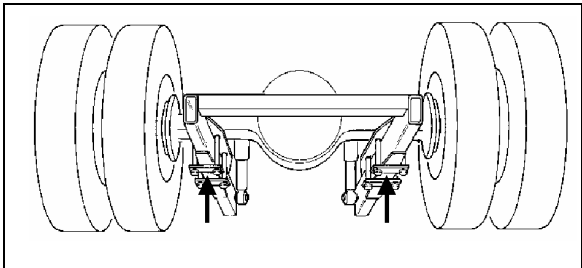
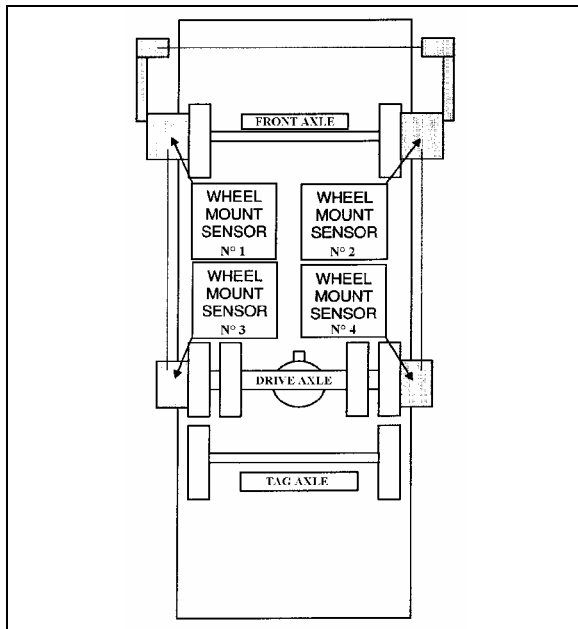

FIGURE 6: JACKING POINTS ON DRIVE AXLE H3B762
FIGURE 8: FRONT & DRIVE AXLE ALIGNMENT 11025
- FIGURE 6: JACKING POINTS ON DRIVE AXLE 4
8. Install jacks under the axle jacking points to support the axle weight (refer to figure 6).
- Remove and reinstall all wheel mount sensors on the drive and tag axles (fig. 8);
Reinstall wheel mount sensors as shown in figure 8. For example, the sensor from the right side of the front axle is mounted on the left side of the tag axle. For corresponding wheel mount sensor reference numbers, refer to figure 6.